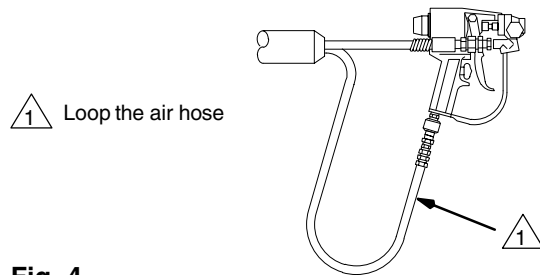

Fig. 4 06421
- c. Connect the air hoses. Do not alter the air hose length at this connection. Loop it down from the gun as shown in Fig. 4.